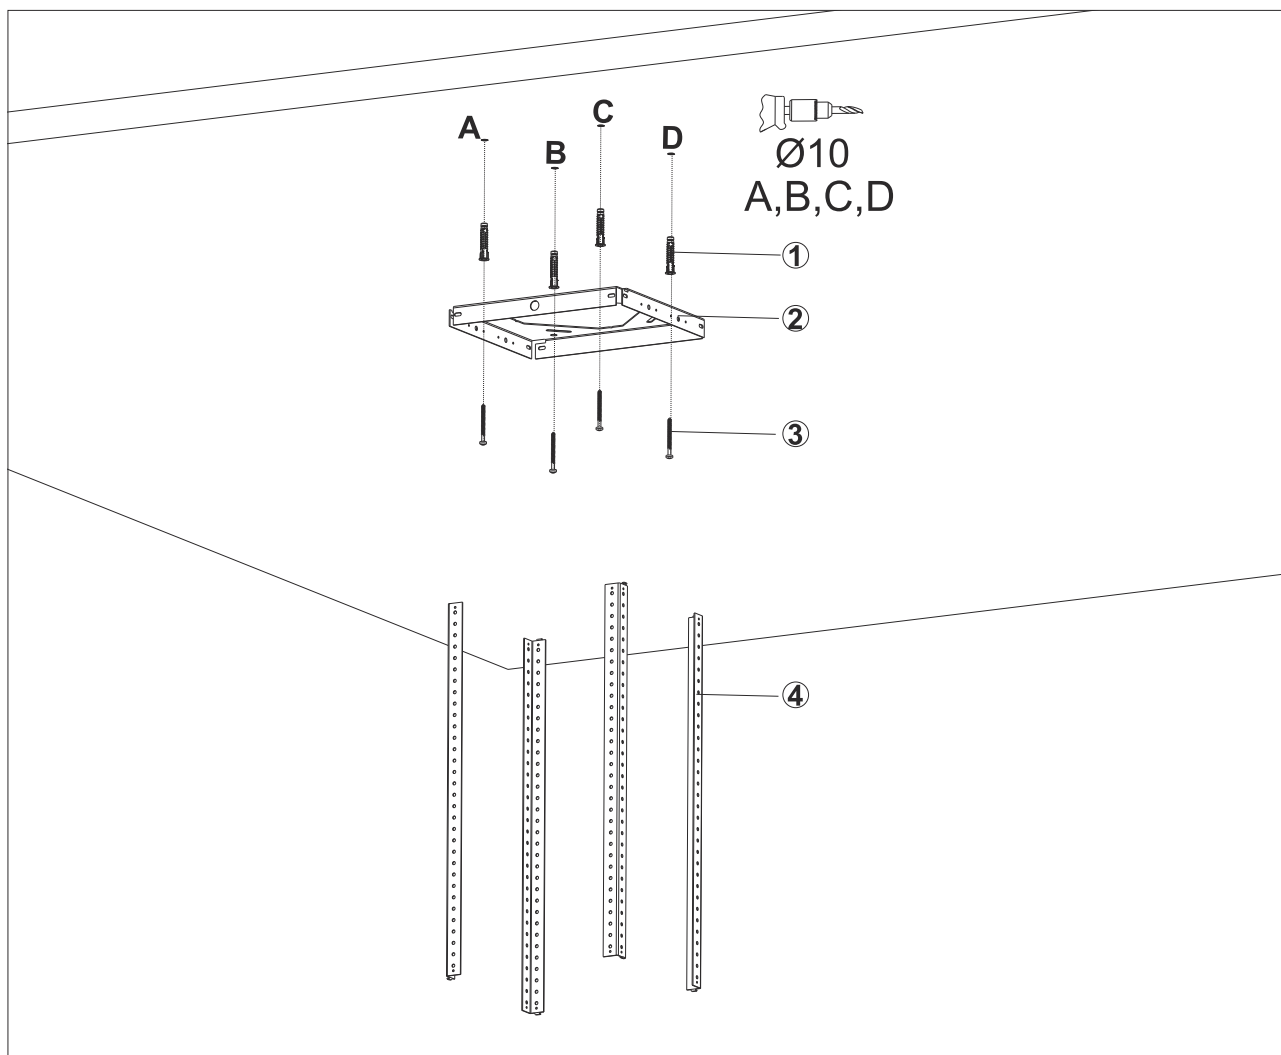

Fig. 11
1. ➤ Drill the surface where product will be installed from the points A, B, C, D with Ø10 mm drill (Fig. 11).
2. ➤ Insert Ø10 mm plastic dowels (1) into the drilled points A,B,C,D (Fig. 11).
3. ➤ Install the Ceiling Connection plate to the ceiling at points A,B,C,D with 5.5x60 screws (3) (Fig. 11).